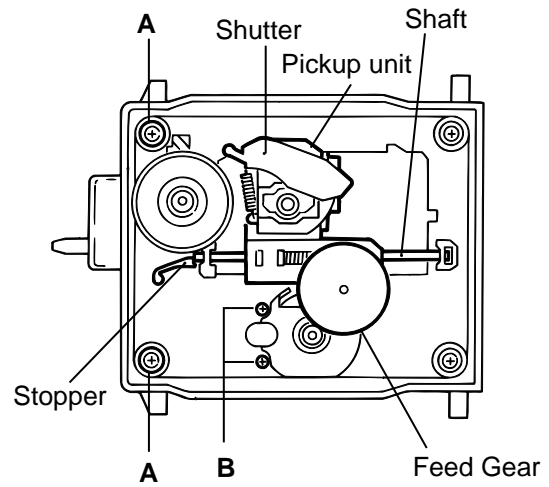
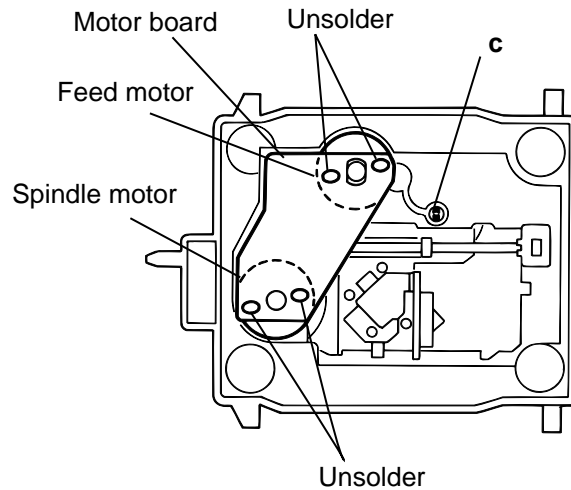

Fig.1
Fig.3
1. Loosen the two screws **A** fixing the chassis.(Fig.1)
(Fig.1, Fig.3, Fig.4)
3. Pull out the shaft by opening the pickup shaft stopper outward to unlock.(Fig.1, Fig.2)
4. Removing the pickup unit.(Fig.1)
1. Unsolder the motor terminal on the motor board.(Fig.3)
2. Remove the motor board.(Fig.3)
Remove the two motor fixing screws at **B** and removing the feed motor.(Fig.1, Fig.3)